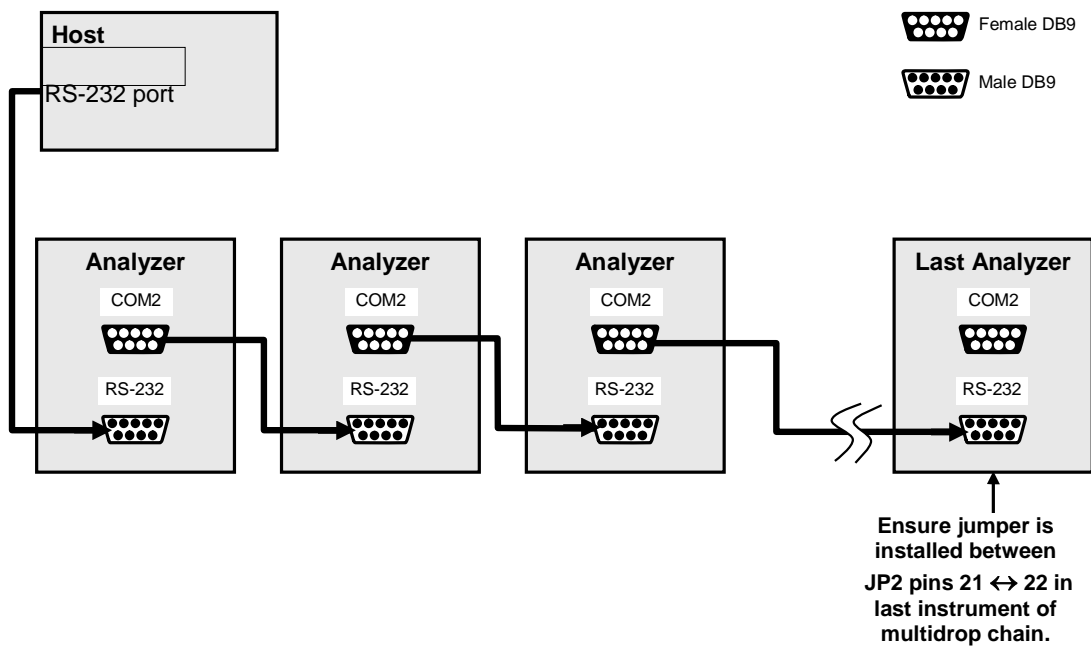

Figure 3-17: RS-232-Multidrop PCA Host/Analyzer Interconnect Diagram
5. Referring to Figure 3-17 use straight-through DB9 male → DB9 female cables to interconnect the host RS232 port to the first analyzer's RS232 port; then from the first analyzer's COM2 port to the second analyzer's RS232 port; from the second analyzer's COM2 port to the third analyzer's RS232 port, etc., connecting in this fashion up to eight analyzers, subject to the distance limitations of the RS-232 standard.